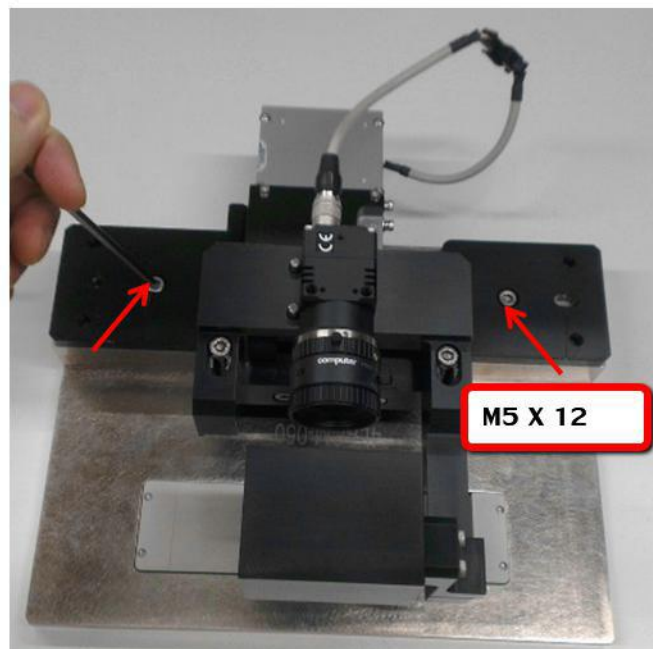

Figure 2 S2EX OFFLINE JIG ASSEMBLY
2. Assemble the PSP 2 Module at "S2EX PSP Adjustment Offline Jig" by using M5 X 12 as below Figure 2.